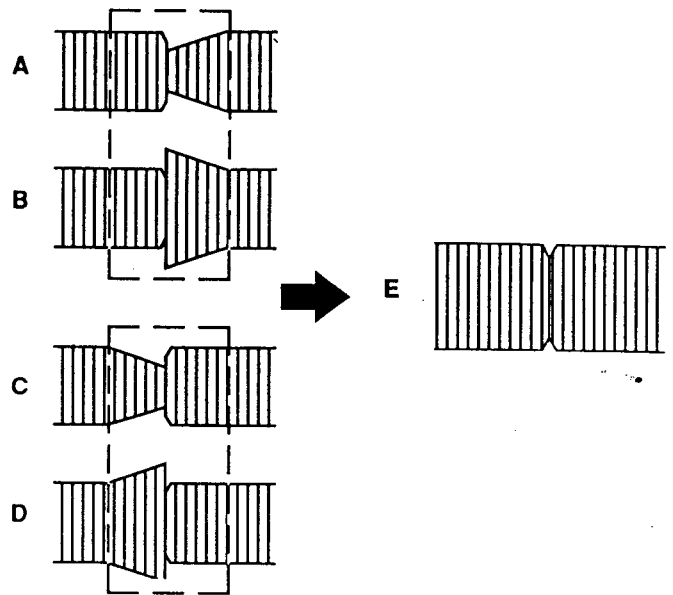

Fig. 34
- If the FM envelopes are displayed as shown in examples "A" and "B" in Fig. 34 adjust with the Run-in Tape Guide Bolt P2 so that the FM envelopes are as shown in Fig. 34 - "E".
- If the FM envelopes are displayed as shown in example "C" or "D" in Fig. 34, adjust with the Run-out Tape Guide Bolt P3 so that the FM envelopes are as shown in Fig. 34 - "E".